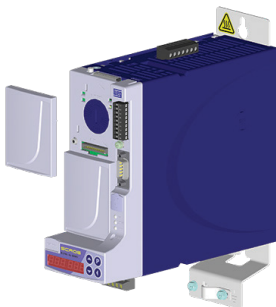

Figure 4.1: Remove the protective cover
2. Remove the slot protective cover, as shown in Figure 4.1 on page 8.